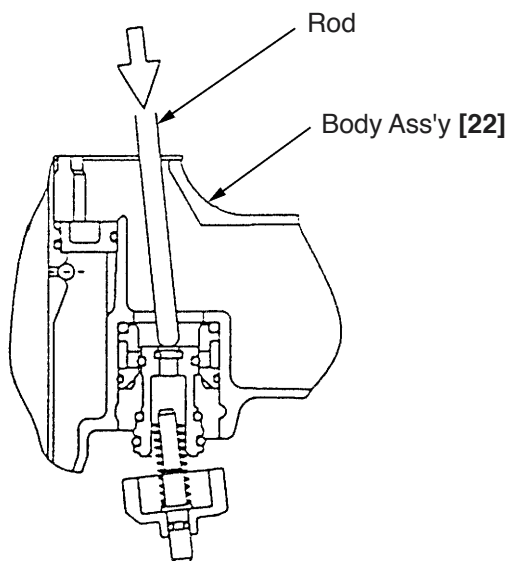

Fig. 16
- Remove the Retaining Ring (E-Type) for D6 Shaft [23]. Trigger (A) [25] and Change Knob (B) [54] can then be removed. The Pushing Lever Guide [28] can be removed by pulling off the Roll Pin D3 x 25 [51] and the Roll Pin D3 x 18 [50].
- (i) Remove the Exhaust Cover [8] as indicated in item 9-2-(1).
- (ii) Insert a small rod from top of the Body Ass'y [22] and push the top surface of Valve Piston (B) [60] as illustrated in Fig. 16, and then the parts forming the control valve unit excluding Valve Bushing (B) [56], the O-ring (S-18) [57] and the Head Valve O-ring (I.D 16.8) [11] can be removed.
- (iii) Valve Bushing (B) [56] can be pulled out using a wire by hooking a bent end into the hole of Valve Bushing (B) [56]. Exercise care not to cause any damage to Valve Bushing (B) [56] interior with such a wire hooked portion.
- Exercise care not to damage Valve Piston (B) [60] and Valve Bushing (B) [56].
- Do not pull off plunger (A) end with pliers or a similar tool.